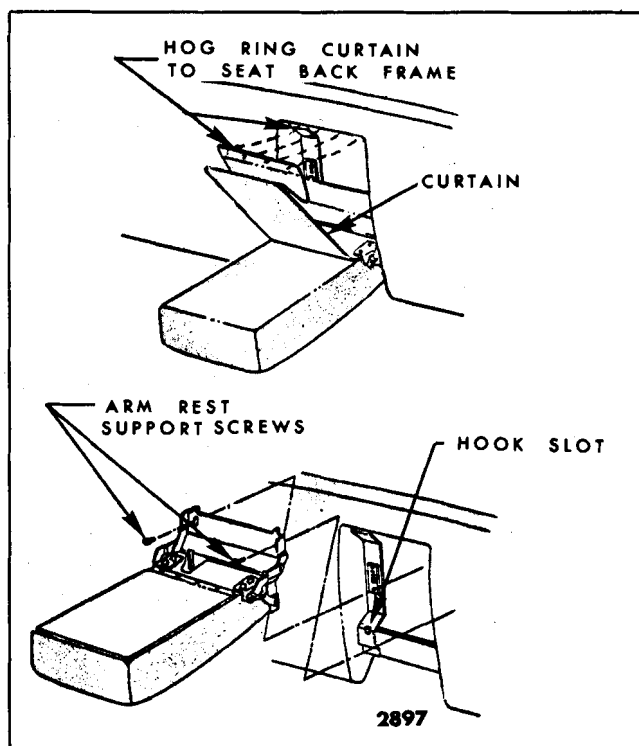

Fig. 14-34-Front Seat Back Center Arm Rest
2. At top of arm rest curtain, remove hog rings securing curtain to flange of support plate and pull curtain forward to expose screws securing arm rest to support linkage (Fig. 14-34).
3. Remove arm rest-to-support linkage screws and remove arm rest and curtain from seat (Fig. 14-34).
2. At top of arm rest curtain, remove hog rings securing curtain to flange of support plate (Fig. 14-34).
3. Remove two screws security arm rest to supports on seat back (Fig. 14-34); then, carefully lift arm rest and linkage upward to disengage hooks of arm rest from slots in supports and remove assembly from seat.